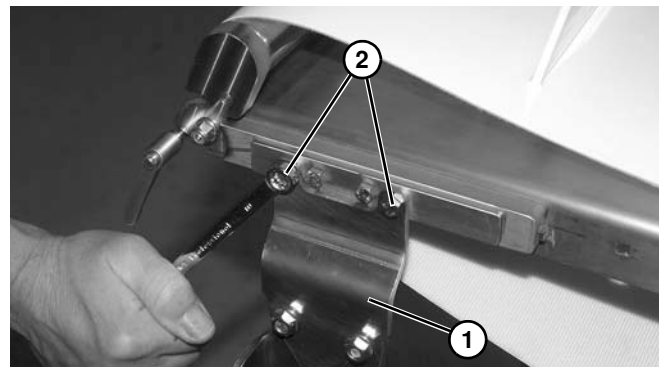

Figure 3
3. Idler End: Attach the bracket (**Figure 3, item 1**) to the conveyor with two screws (**Figure 3, item 2**) on each side.